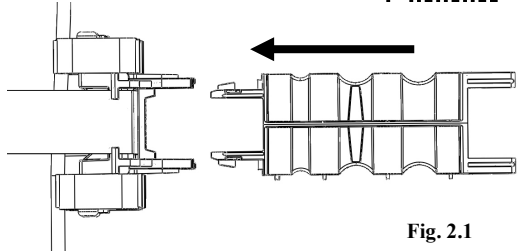

Fig. 2.1
Each Angle Brace has a slotted receiver (female end) for the Extender Arm prongs (male end) to insert into (Fig 2.1). Once installed the Extender Arms will give you a platform to install your GenTent Frame Rods into.
- b. Push the Extender Arm straight into the Angle Brace until the pivot pins snap into place (Fig 2.1)